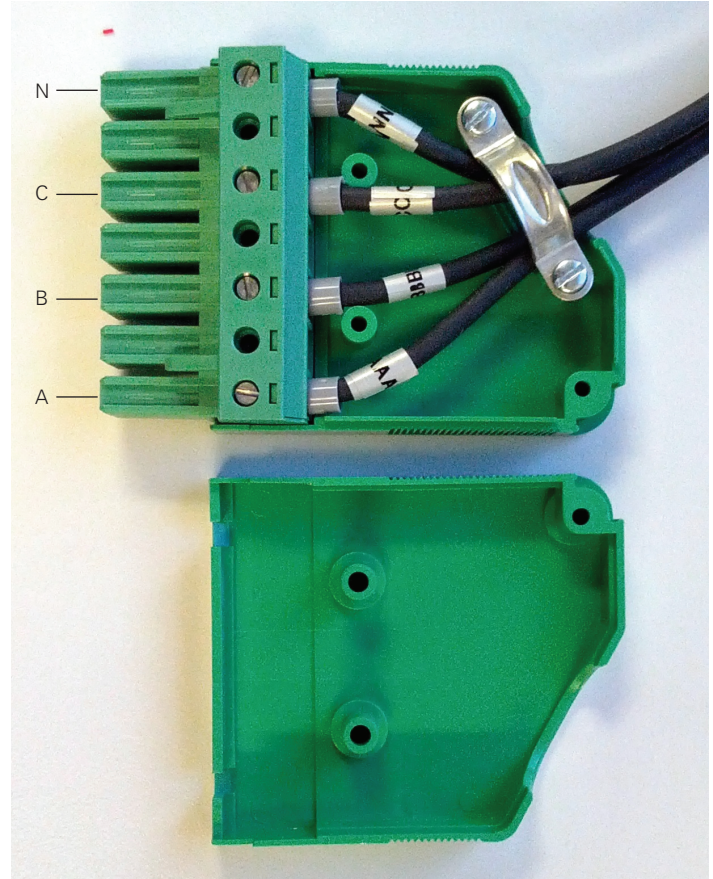

Figure 7. Meter Voltage Input Terminal Plug and Cover.
Metering voltage inputs connect to the right side of the PXMP-MB and PXMP-MB-AB assemblies. Inputs are marked **A (V1)**, **B (V2)**, **C (V3)**, and **N (VR)** on both the PXMP-MB and PXMP-MB-AB assemblies. If connecting to a Delta system, the unused N (VR) terminal should be connected to chassis ground. A cover for the voltage terminal is provided as a barrier to hazardous terminal access (see Figure 7).